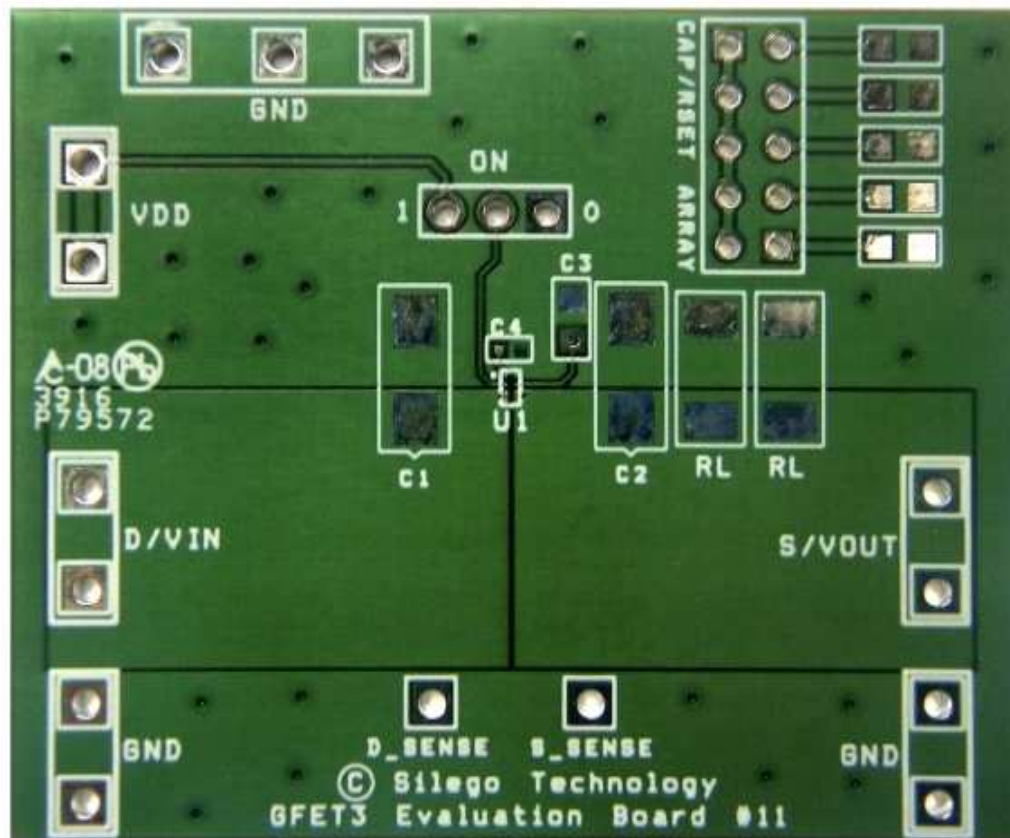

Figure 5. SLG59M1735C Evaluation Board
2. Since the VIN and VOUT pins dissipate most of the heat generated during high-load current operation, it is highly recommended to make power traces as short, direct, and wide as possible. A good practice is to make power traces with absolute minimum widths of 15 mils (0.381 mm) per Ampere. A representative layout, shown in Figure 5, illustrates proper techniques for heat to transfer as efficiently as possible out of the device;
A GreenFET Evaluation Board for SLG59M1735C is designed according to the statements above and is illustrated on Figure 5. Please note that evaluation board has D\_Sense and S\_Sense pads. They cannot carry high currents and dedicated only for RDSON evaluation.